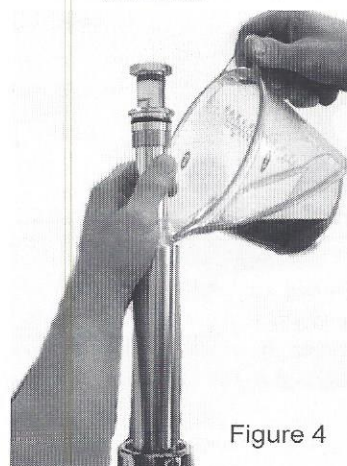

Figure 4
- Pour 5 ounces of 10 wt. fluid in each fork, pausing to stroke the assembly to get the fluid into the outer fork slider. Failure to do this will cause the required amount of fluid to overflow (see figure 4). This fluid is just to lubricate moving parts and has no effect on the actual damping action of the sealed Monotube cartridge fork insert.
- **Technical info:** Our technical staff will assist you if you have any problems or questions. Call (714) 523-8700 from 8 am to 4 PM Pacific time.